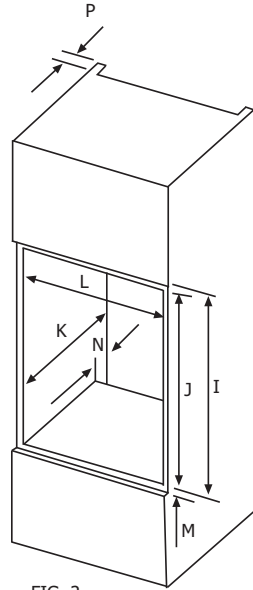

FIG 2
Refer to FIG.2 for the dimensional requirements.
4. Ventilation is required for the product, to allow it to function correctly, a cutout should cut into the top of the housing unit (see FIG.2), to provide this.
The appliance is designed to fit into a standard 600mm wide housing unit, with minimum internal dimensions as shown in FIG.2 of the installation dimensions. Please note that all sizes are nominal, and some variation is to be expected.